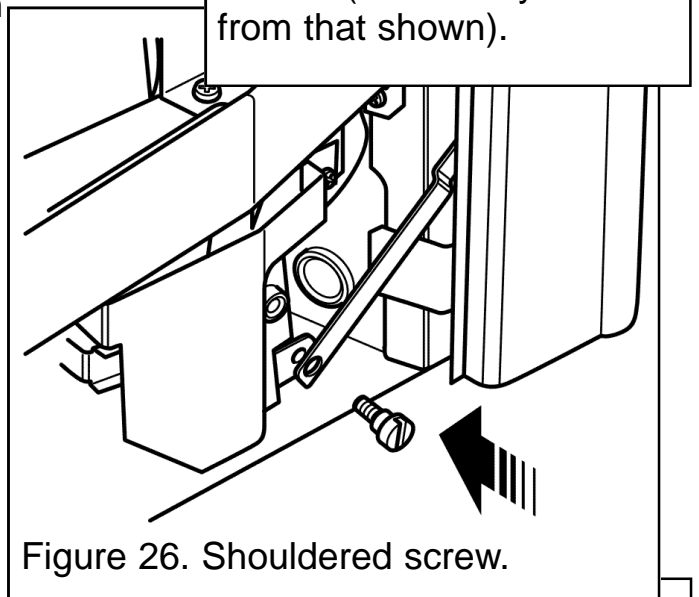

Figure 26. Shouldered screw.
5. Connect the control linkage to the control pivot plate using the shouldered screw previously removed and using a screwdriver (NOT finger tight only) (See figure 26).